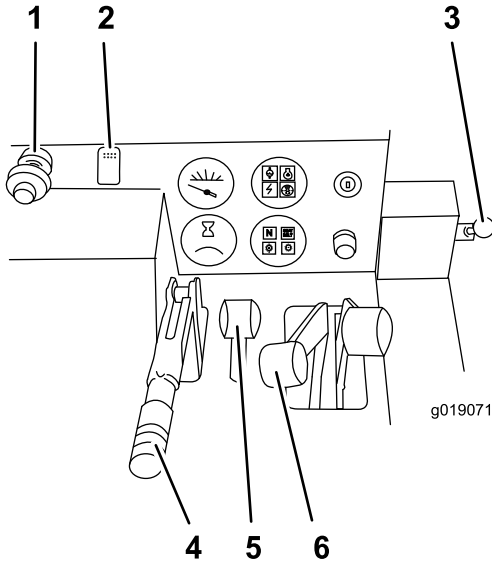

Figure 10
2. When the engine is warm, pull the throttle out to full throttle (Figure 10).
3. If the machine is equipped with a trencher, move the attachment selector lever to the cable plow position (Figure 10).